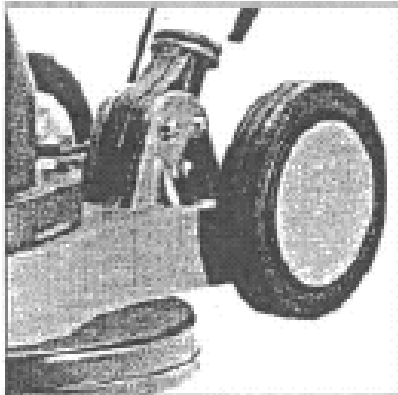

Fig. 1
- M8 x 70 Bolt (3)
- Nyloc Hex. nut (3)
- Plain washer (6)
- 13mm A/F Spanner (2)
- 5 Align holes in pivot with those on base and fit the three M8 bolts, washers and nuts, and tighten using the spanners supplied (Fig.1).